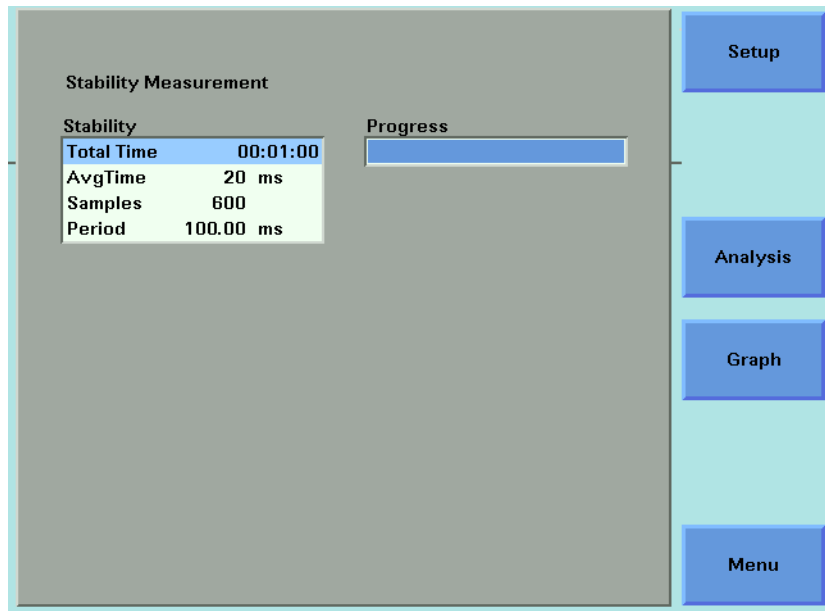

Figure 151 The Logging Measurement Screen - Measurement Completed
- 3 When the logging application completes, you hear a beep, an hourglass appears momentarily. If you are viewing the Logging Measurement Screen the available softkeys change as shown in Figure 151.